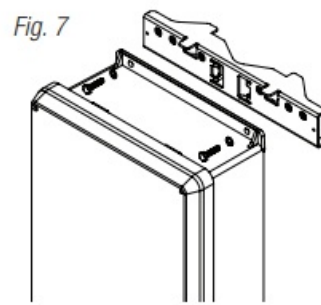

Fig. 7
3. Attach the bottom bracket to the enclosure by inserting bolts through the flange of the enclosure and into the bracket, tightening bolts with a 7/16" hex socket (Fig. 7, pg. 8).
5. Mount the enclosure onto the top bracket by inserting bolts through the flange of the enclosure and into the bracket, tightening bolts with a 7/16" hex socket (Fig. 7, pg. 8).